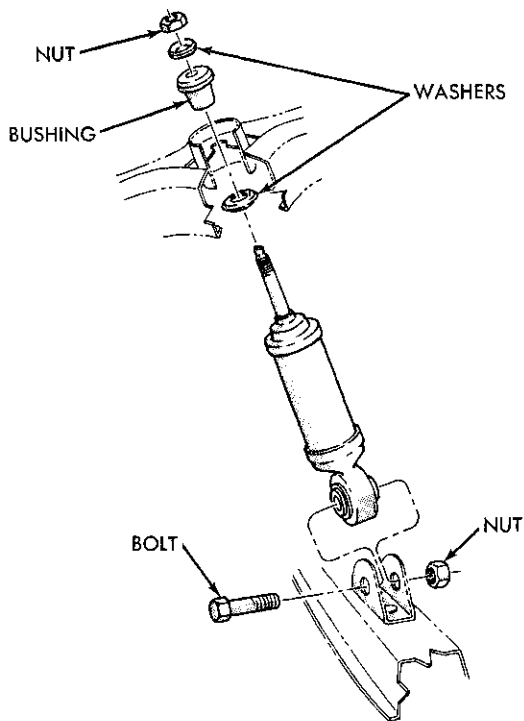
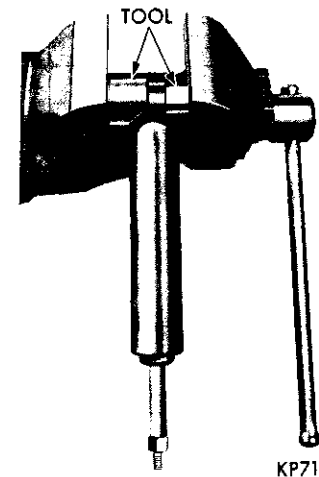

Fig. 1—Front Shock Absorber
Fig. 2—Replacing Shock Absorber Bushing
- (1) Remove the nut and washer (Fig. 1) from the upper end of the shock absorber control rod.
- (2) Compress the shock absorber by pushing the rod through the shock absorber support.
- (3) Remove the lower mounting bolt and remove the shock absorber.
- (4) If the upper bushing appears worn, damaged or deteriorated remove it by first pressing out the inner steel sleeve, then prying-out or cutting-out the rubber bushing. (This bushing takes some permanent set so that once removed it should be replaced.)
- (5) If the lower bushing is to be replaced, remove it from the shock absorber, using Tool C-3553 to press on the **outer** sleeve of the bushing (Fig. 2). (Pressing on the inner sleeve will not remove the outer sleeve from the shock absorber.)